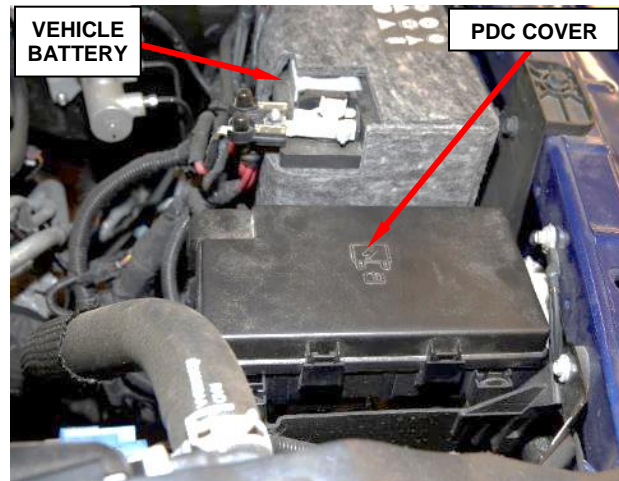

Figure 1 – Power Distribution Center
2. Remove the Totally Integrated Power Module (TIPM) cover (Figure 1).
13. Install fuel pump fuse in the PDC then close the PDC cover (Figures 1 and 2).